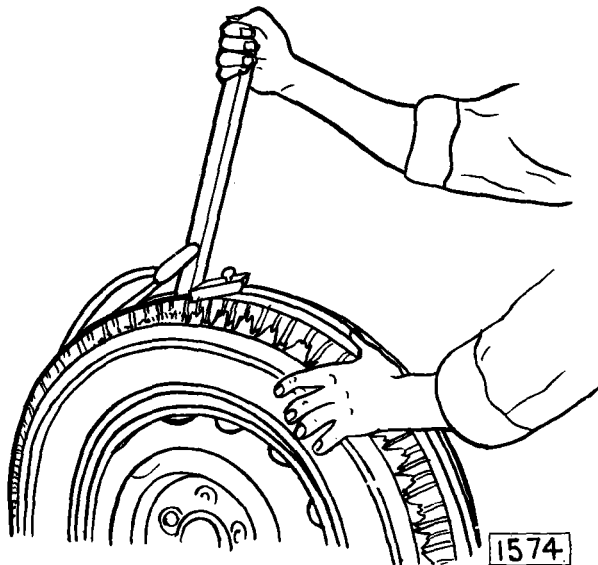

Fig. 20. Tightening tourniquet to seal beads.
2. Thread the loose end of the strap through gap between rivet and roller on the link mechanism and compress tread by pulling handle through 180° (Fig. 20).